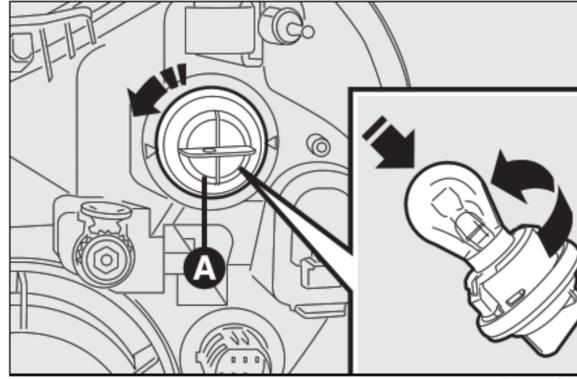

fig. 23
- turn the bulb holder **A-fig. 23** counterclockwise and remove it;